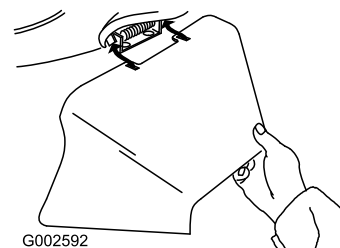

Figure 32
3. Install the side discharge chute and close the door onto the chute (Figure 32).